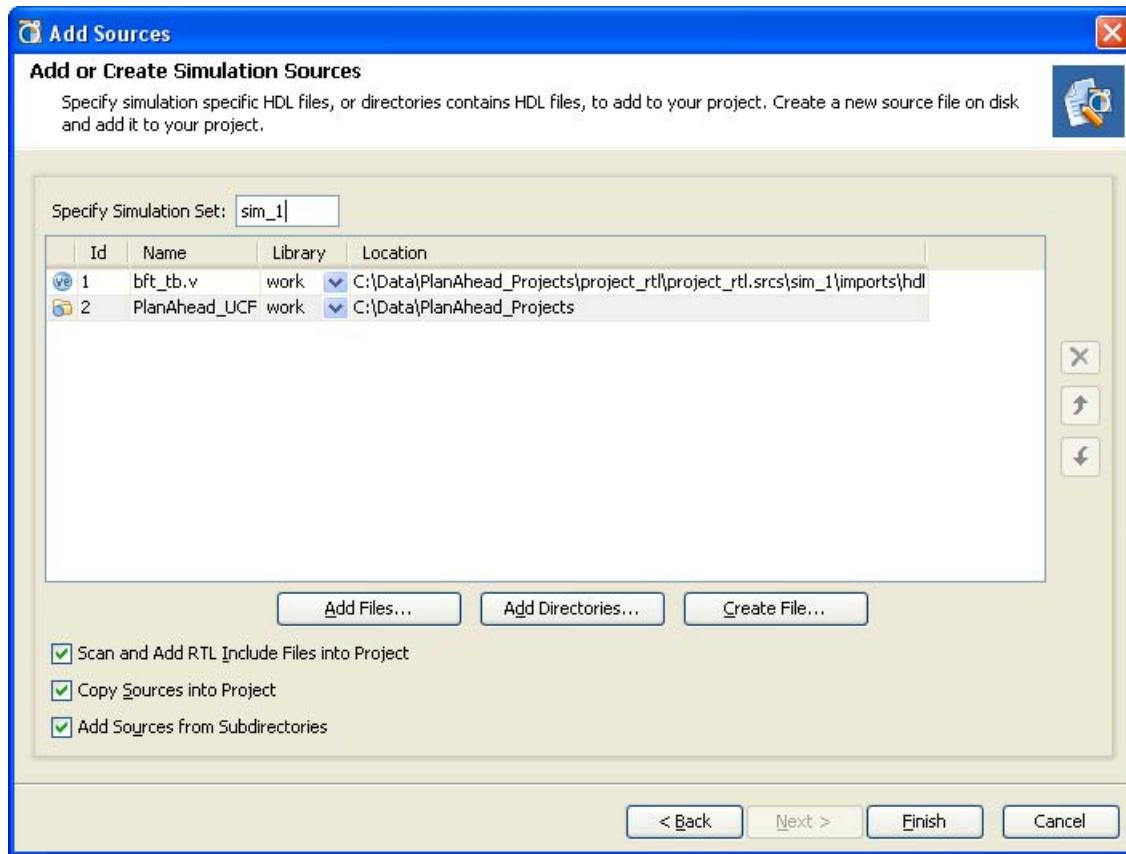

Figure 3-23: Add or Create Simulation Sources
2. Select **Add or Create Simulation Sources**, and click **Next**. The Add or Create Simulation Sources dialog box opens as shown in Figure 3-23, page 69.